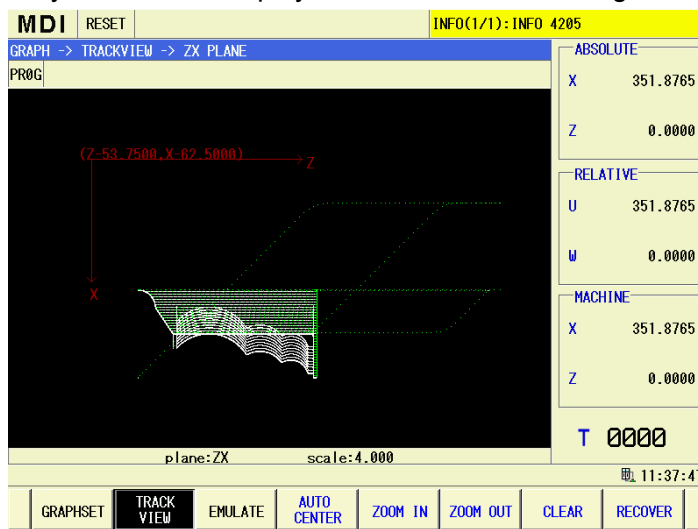

Fig.8-2
(1) Press **GRAPH** function key to enter the graph page set;
(2) On the graph page set, press **TRACK VIEW** software key to enter the path display page and the program path currently executed is displayed, which is shown as Fig. 8-2: